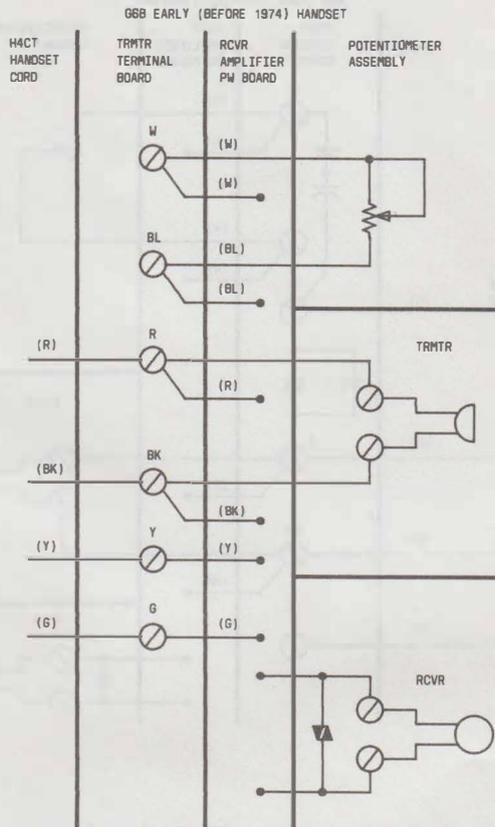

Fig. 1—G6B Early (Before 1974) Handset, Connections
**3.04 Schematics:** Internal connections of the amplifier type handsets are shown in Fig. 1 through 8.
- (2) Loop and tie or tape the excess length of white conductors to approximate length of red and black conductors.
- (3) Insert conductors in transmitter bowl carefully so as not to disrupt the printed circuit board.
- (4) Connect to transmitter terminal board as shown in Fig. 1, 2, 3, 4, 5, or 6.